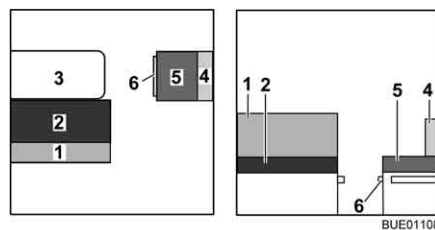
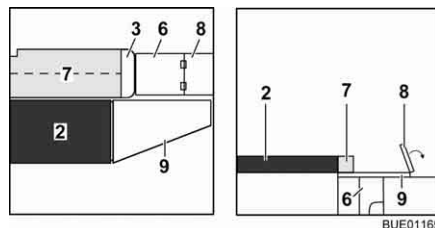

Fig. 135 Prior to conversion
Fig. 136 During conversion
- Convert the table (Fig. 135,3) to a bed foundation (see section 6.11).
- Remove the back cushion (Fig. 135,1) and lay it aside.
- ▷ Depending on the model, the back cushion (Fig. 135,1) can be used instead of the additional cushion (Fig. 136,7).
- Remove the back cushion (Fig. 135,4) and the seat cushion (Fig. 135,5) and lay them aside.
- Pull out the bedding box extension (Fig. 136,6).
- Fold the seat base extension (Fig. 136,8) outwards.
- Unfold the additional cushion (Fig. 136,7) and lay it on the table.
- Hook the bed widening (Fig. 136,9) into the recesses on the bench seats.